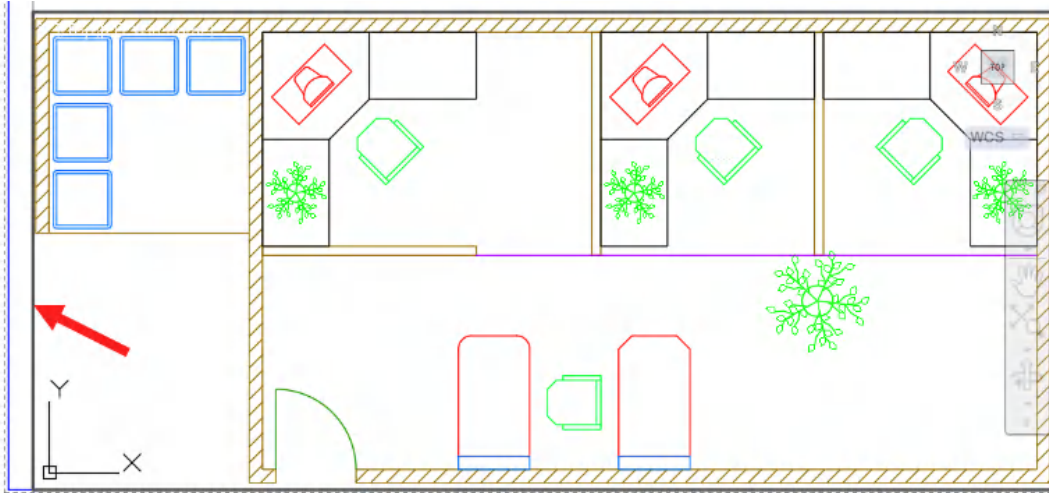

Figure 8.12: The new viewport activated with the Navigation Bar, ViewCube, and UCS icon displayed
11. The viewport will display a zoomed extents view of what is in the **Model** tab as soon as the viewport is placed. Double-click inside the boundary of the new viewport to activate it. You will see the viewport boundary highlight and you can now work within the viewport as if you were drafting in the **Model** tab. This is colloquially known as *floating modelspace*. Figure 8.12 shows the viewport activated. When a viewport is active, navigation tools such as the **Navigation Bar**, **ViewCube**, and the **UCS icon** are displayed inside the active viewport.